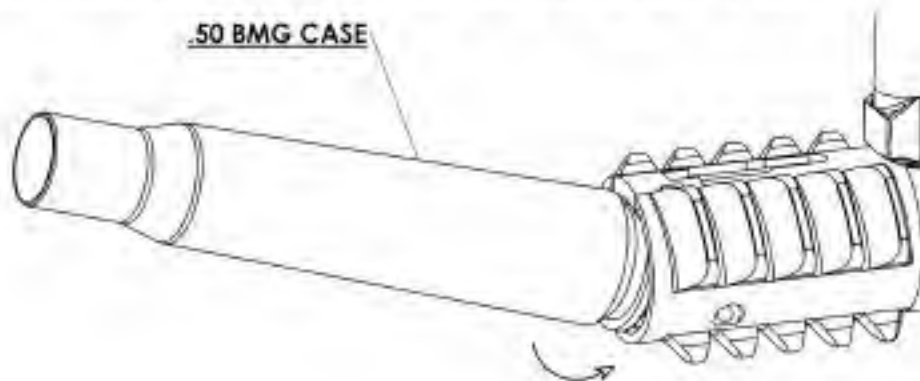

Figure 17.
3. Hook the rim of a shell casing under the extractor. Use the opposite side of the shell casing to force the ejector flush with the bolt face. (Figure 17.)